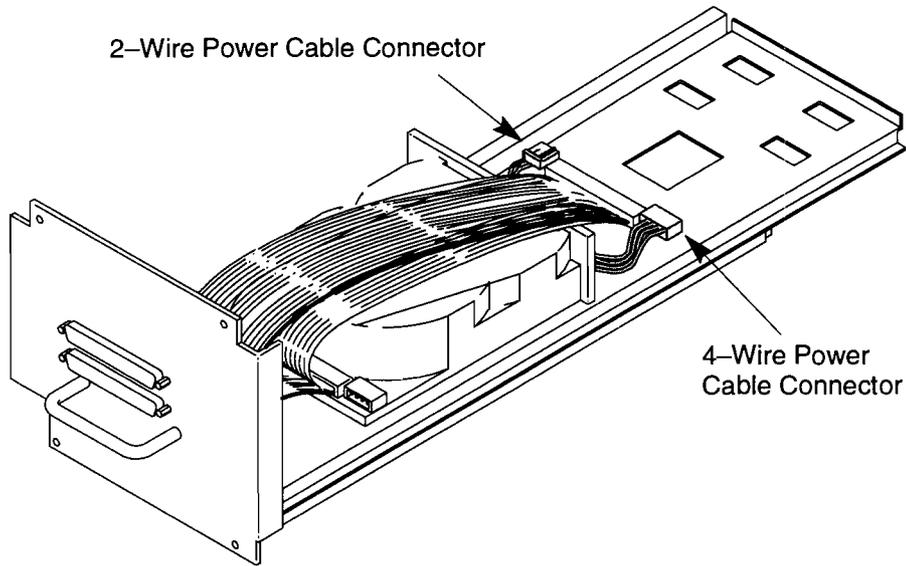

Figure B-33. Rearranging the Cables
4. Pull the 4-wire power cable out from the channel in the bottom of the tray, and tuck the 2-wire power cable into the bottom of the disk tray assembly (see Figure B-33).